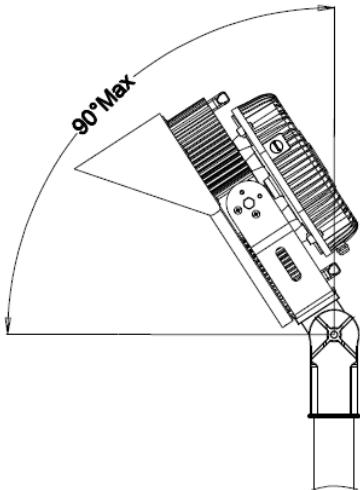
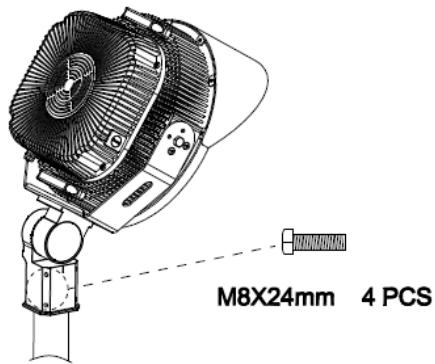

FIG.36
FIG.39
- 1) Align slip fitter bracket with U shape bracket, use 2pcs M8*24mm bolts and nuts to fix them. Use 4pcs M8*24mm bolts to fix slip fitter bracket on the pole. (See FIG.36 to FIG.39)